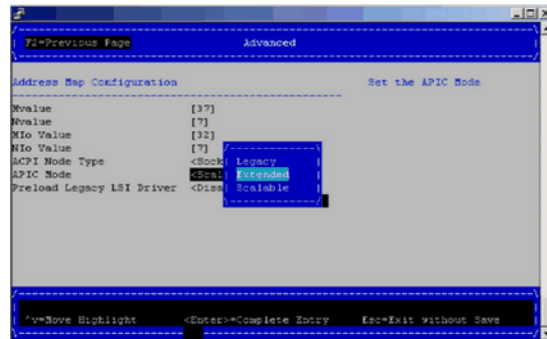

Figure 1-9 APIC Mode Extended Example Screen
- Change **Mvalue** back to 37 from 36. Change **Nvalue** back to 7 from 4. Change **APIC Mode** to **Extended** (see Figure 1-9 on page 11). Use F10 to save changes (alt-0 in some terminals). Use F2 to return to **Advanced** screen. Use F10 to save changes. Use ESC to return to **Device Manager** window. Select **Continue** and accept the reset request.